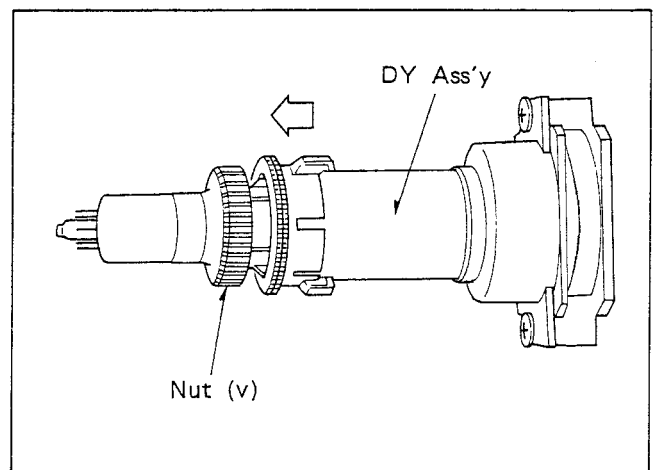

Fig. D24
- (4) Rotate Nut (v) and then pull DY Assembly in the direction shown in Fig. D24 to remove it. Then the CRT can be replaced.
- (5) For re-installation, reverse the above steps.